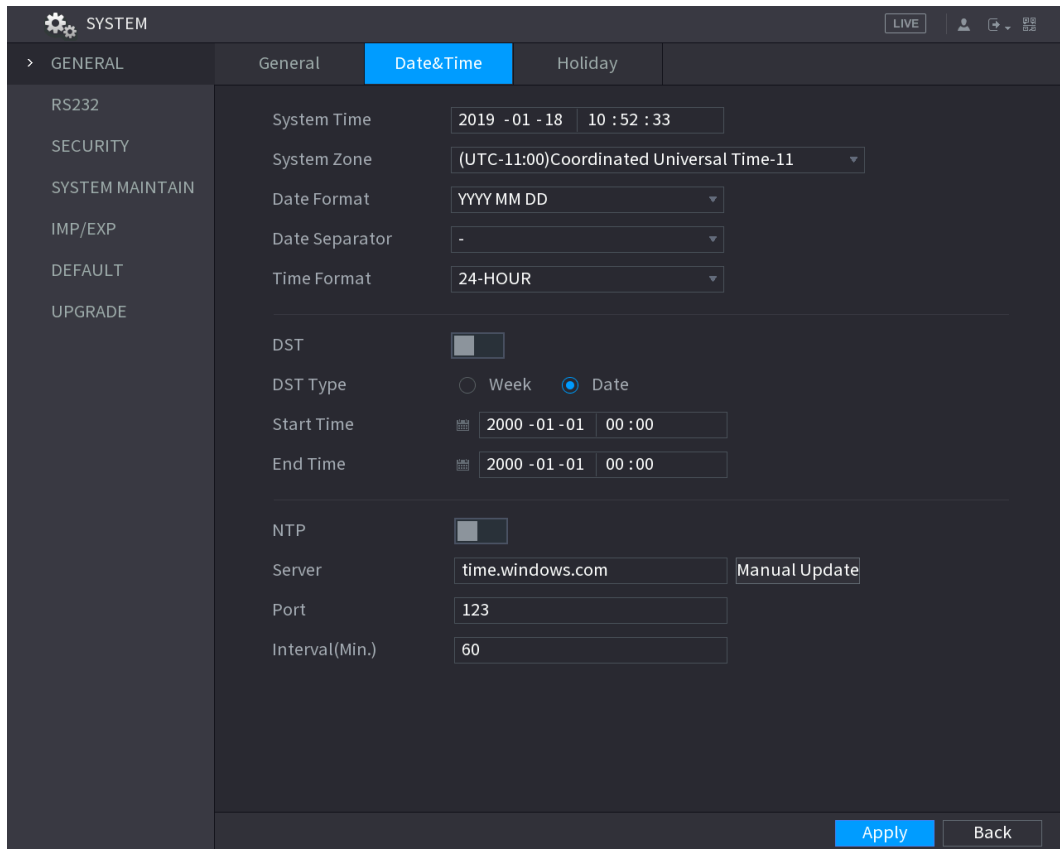

Figure 5-20
**Step 1** After you have configured the general settings, on the **General** interface, click **Next**. The **Date & Time** interface is displayed. See Figure 5-20.